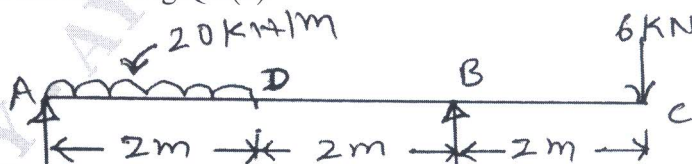

Fig.Q.6(b)
- b. Draw the shear force and bending moment diagram indicating principal values for an overhanging beam shown in Fig.Q.6(b). (14 Marks)